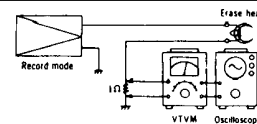

Fig. 16
<p>Erase current</p> <p>Condition:</p> <ul style="list-style-type: none"> <li>Record mode</li> </ul> <p>Equipment:</p> <ul style="list-style-type: none"> <li>VTVM</li> <li>Oscilloscope</li> <li>Resistor (1Ω)</li> </ul>	<ol style="list-style-type: none"> <li>Connect 1Ω resistor between ground side terminal of erase head ground lead wire removed (See fig. 16).</li> <li>Connect VTVM to both ends of 1Ω resistor.</li> <li>Place UNIT into record mode, and measure voltage across the 1Ω resistor.</li> <li>Determine erase current with the following formula:</li> </ol> $\text{Erase current (A)} = \frac{\text{Voltage across both ends of } 1\Omega}{1\Omega}$ <p style="text-align: center;">Standard value: 60 ± 15 mA (bias selector ... low)</p>